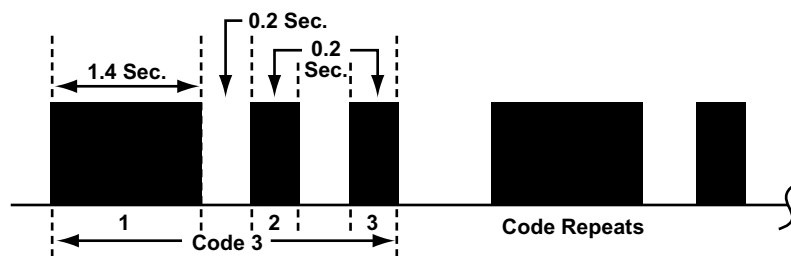

Figure 10-22 Isuzu RWAL ABS Code Type
- Rear wheel antilock (RWAL), see Figure 10-22 and Table 10-5 on page 108